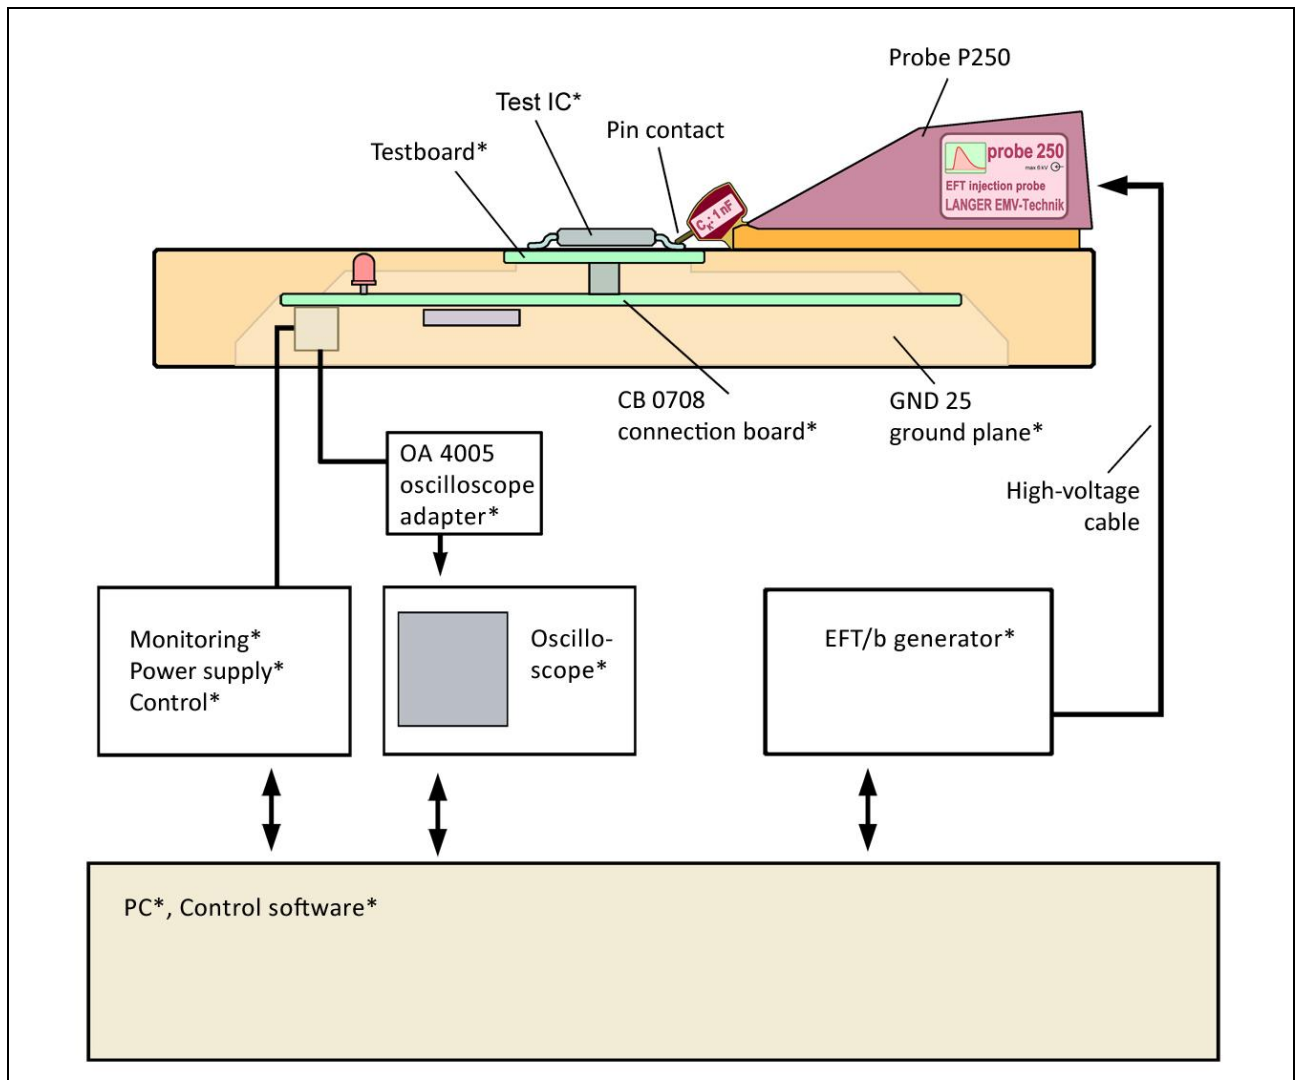

Figure 11: P250 probe in the test environment
**Figure 11** shows the set-up of the IC test system with the ICE1 IC test environment set (**Table 5**) and the P250 probe set.